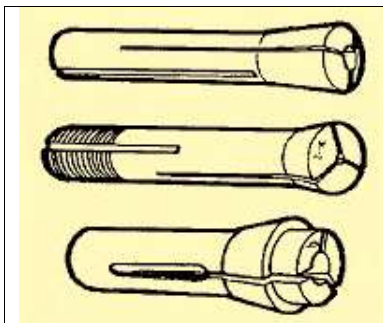

Figure 8-16. Solid and spring collets.
**Collets:** Is a form of a sleeve bushing for reducing the size of the hole in the milling machine spindle so that small shank tools can be fitted into large spindle recesses. They are made in several forms, similar to drilling machine sockets and sleeves, except that their tapers are not alike. (Figure 8-16).